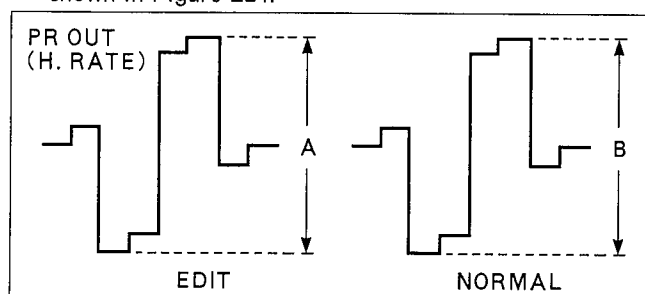

Figure E24
3. Adjust VR9407 so that the levels "A" and "B" become the same at the EDIT mode and NORMAL mode (change the IMAGE MODE SELECT (MENU NO.2001)) as shown in Figure E24.